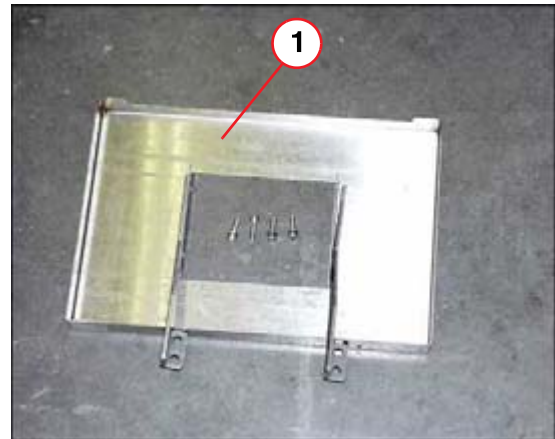

Fig. 9: Transformer trough
- Then bolt the transformer trough (1/Fig. 9 / p. 14) including the transformer holder to the unit base.